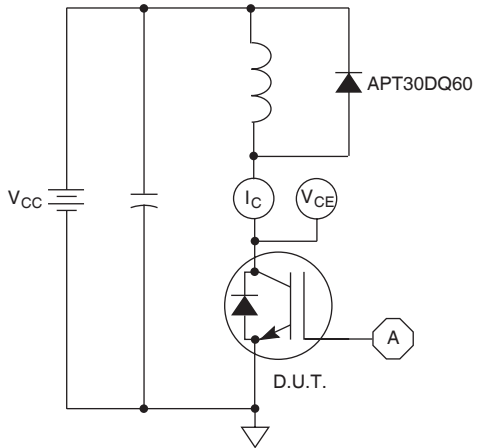

Figure 21, Inductive Switching Test Circuit
- ⑤  $E_{on2}$  is the clamped inductive turn-on energy that includes a commutating diode reverse recovery current in the IGBT turn-on switching loss. (See Figures 21, 22.)
- ⑥  $E_{off}$  is the clamped inductive turn-off energy measured in accordance with JEDEC standard JESD24-1. (See Figures 21, 23.)